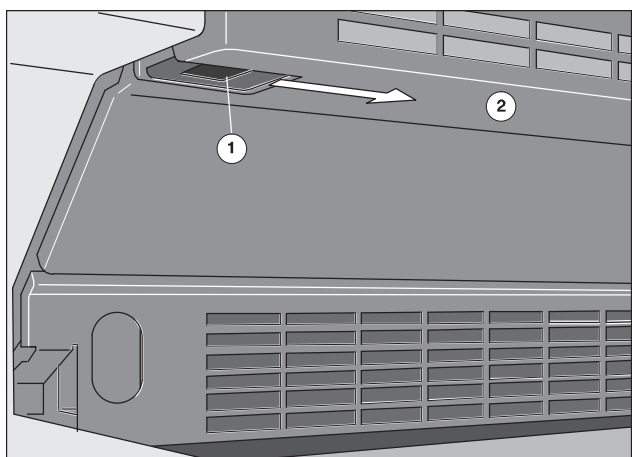

Fig. 69 Open the guard under the dampening system.
1. Press the locking devices (here O.S., Fig. 69/1) at the guard under the dampening system (Fig. 69/2) on both sides towards the press center and fold the guard downwards.